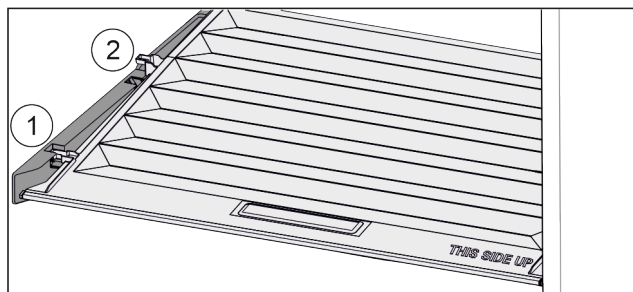

Fig. 114
- ▶ Pull the lid up at the front in the retaining parts to the opening Fig. 114 (1).
- ▶ Lift from the back and pull it up and out Fig. 114 (2).